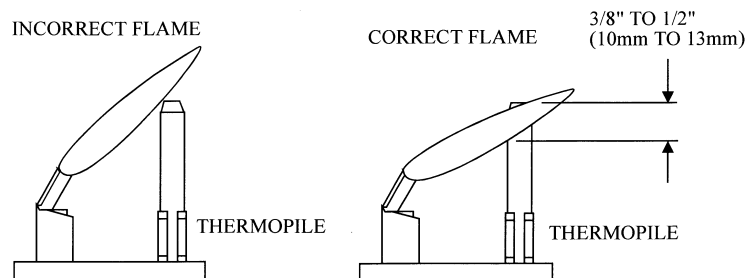

Figure 24
For proper operation, the pilot and main burner flames must be steady and not lifting off or floating. The top 3/8" - 1/2" (10-13mm) of the thermopile should be engulfed by the pilot flame. The pilot flame adjustment should be performed by a qualified service person only. To adjust the pilot flame, turn the pilot adjustment screw counter-clockwise to increase, and clockwise to decrease the flame. Ensure that the pilot flame completely engulfs the thermopile (see Figure 24).
2. Visually check the burner and pilot flames occasionally. Visually inspect height and colour of flames (see Figure 24).